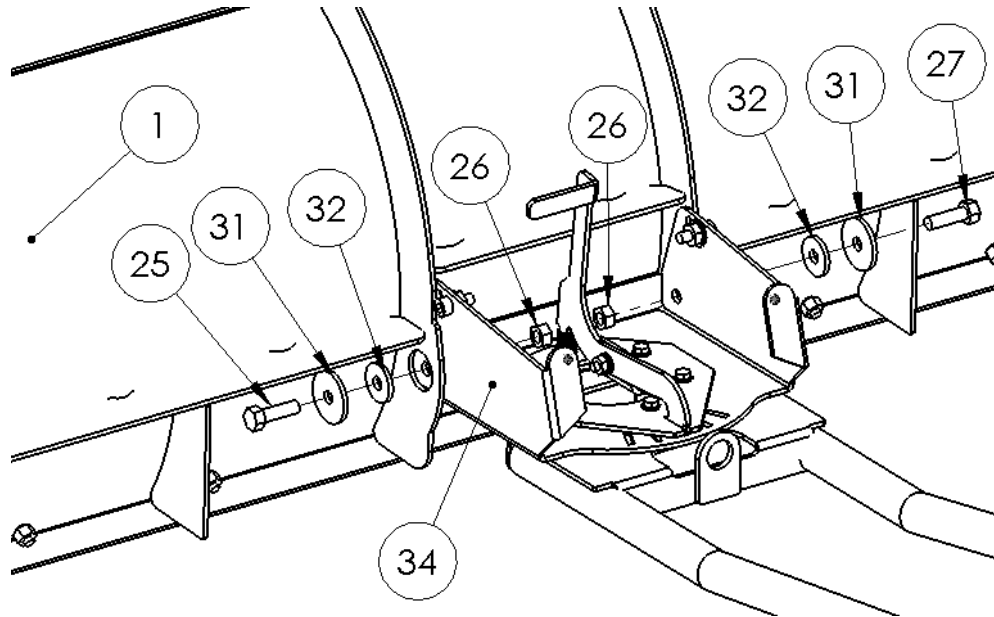

Figure 8
- 9) Attach the Plow Blade (#1) to the Slotted Top Plate (#34) using the M12 Hex Head Bolt (#25), Large Retainer Washer (#31), Small Retainer Washer (#32), and M12 Nylock Nut (#26). Take note of the order in which the Large and Small Washers are placed. **Installation Tip:** The small washer (#32) should be positioned inside the accompanying hole in the blade support bar before tightening. See (Figure 8.)